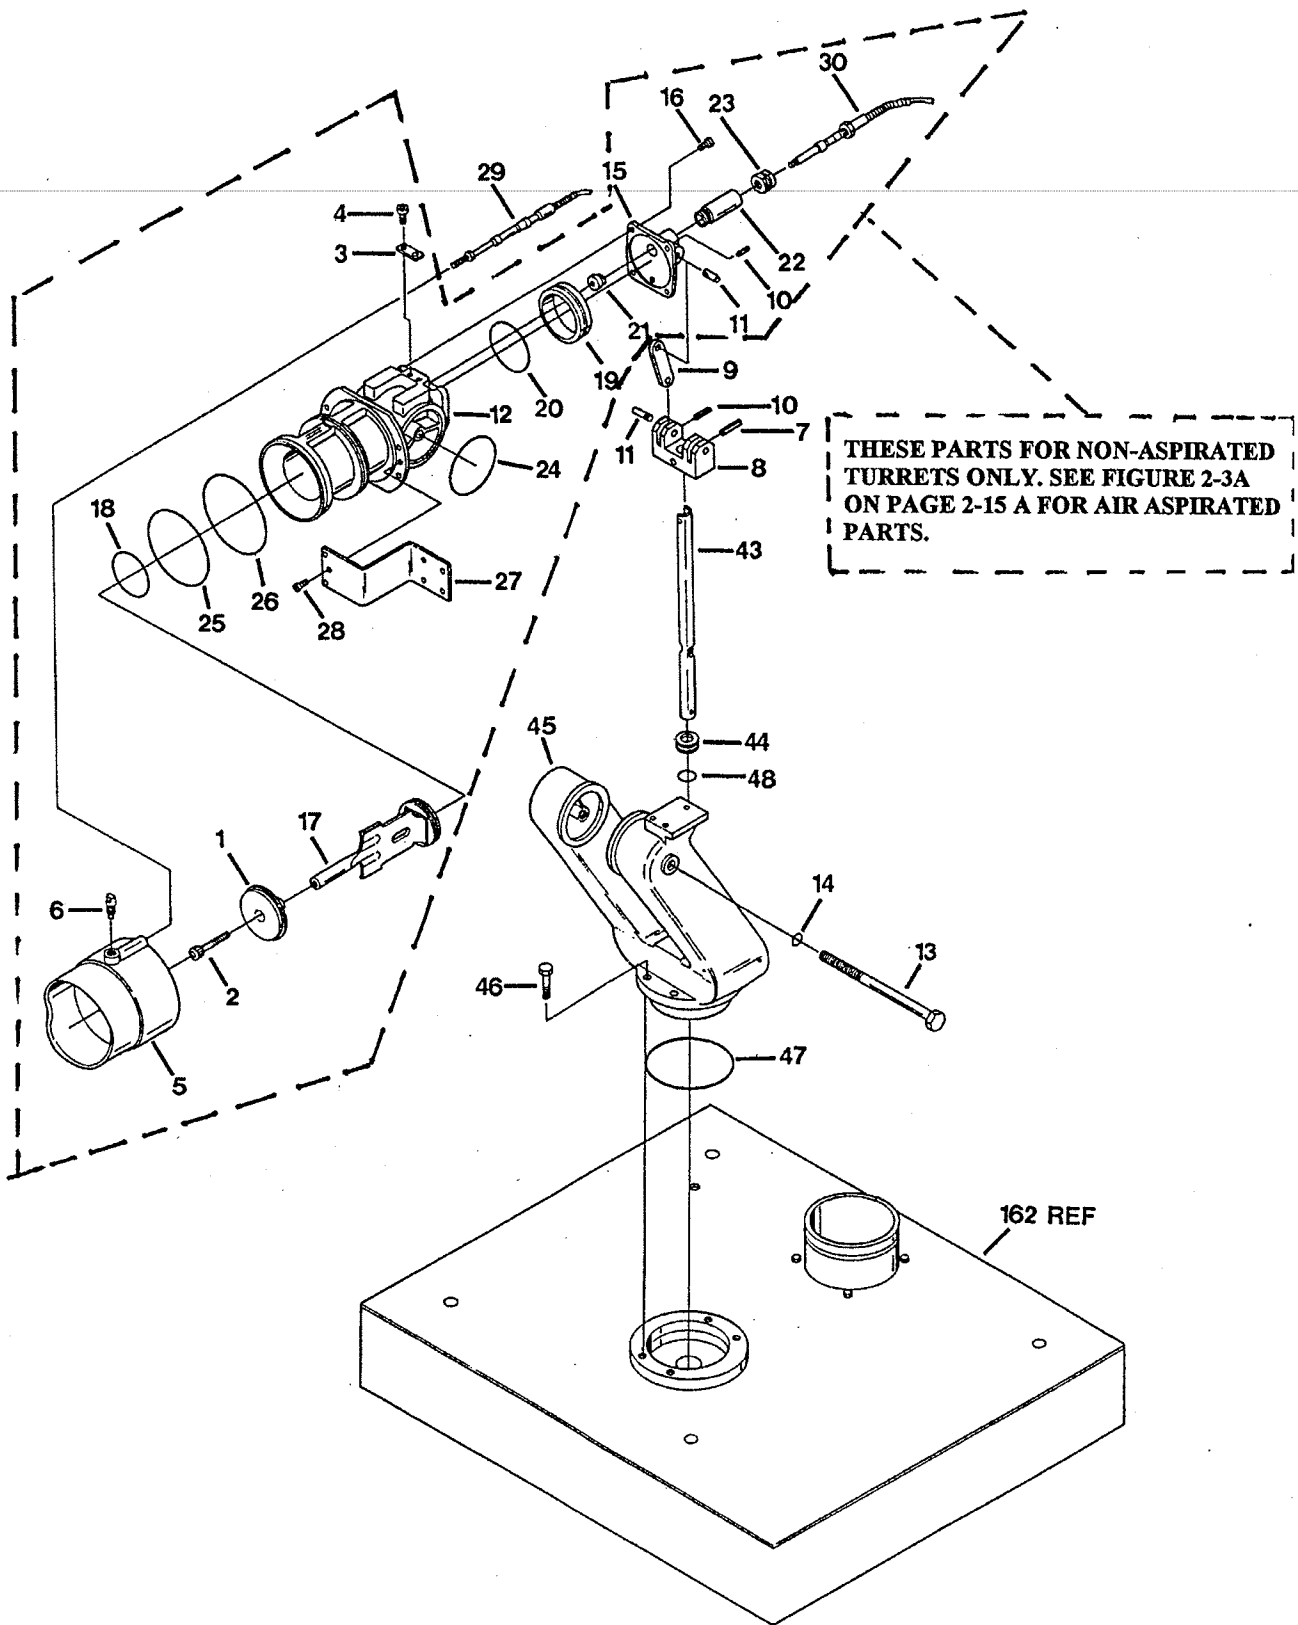

Figure 2-3. Roof Turret Assembly (Sheet 1).
- (1) Install eyebolts at corners of turret (1).
- (2) Install new gasket (10) and hoist turret (1) onto cab.
- (3) Attach turret (1) to cab roof with 22 screws (2), washers (4) and nuts (3). Tighten bolts to 10 lb.ft. (13.6 N•m).
- (4) Attach roof turret agent supply line to turret (1) using seal and coupling.
- (5) Connect air lines to override valve (62, Figure 2-3).
- (6) Connect truck drain hose to drain valve assembly (97, Figure 2-3).
Refer to Figure 2-3. The location of the roof turret major subassemblies and parts are illustrated along with their associated attaching hardware. The subassemblies are further broken down and illustrated in the figures following Figure 2-3.
a. Removal. Refer to Figure 2-3 unless otherwise indicated.
- (1) Remove screw (2) from baffle head (1) and remove baffle head. Save the shim that was used between the baffle head (1) and baffle stem (17).
- (2) Remove two screws (4) from cable clamp (3) and remove cable clamp.
- (3) Remove pattern cable (30) from outlet tee (12).
- (4) Remove stop screw (6) from pattern sleeve (5) and slide pattern sleeve off outlet tee. Unscrew pattern sleeve from pattern cable (30).
- (5) Remove spring pin (7) connecting elevation clevis (8) to elevation shaft (43).
- (6) Remove two spring pins (10) and pins (11) connecting elevation clevis (8) to upper elevation links (9) and remove elevation clevis.
- (7) Remove bolt (13) and O-ring (14) attaching outlet tee (12) to the siamese (45).
- (8) Remove four screws (16) attaching cable bracket (15) to the back of the outlet tee and pull assembled parts out of outlet tee.
- (9) Screw the baffle stem (17) off the rate cable (31).
- (10) Remove two spring pins (10) and pins (11) connecting elevation links (9) to cable bracket (15) and remove two elevation links.